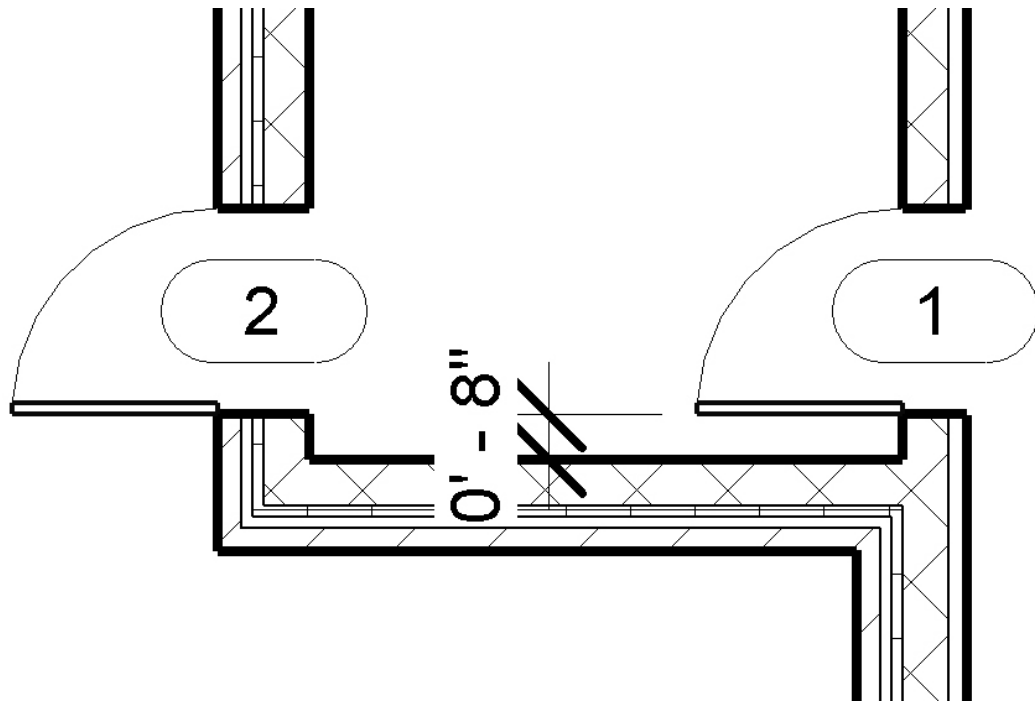

FIGURE 3-5.4 Doors in West stair shaft
8. Insert two doors in the West stair shaft as shown in Figure 3-5.4. Remember you are inserting a door into a masonry wall so your door position and size need to work with coursing. Thus the 8" dimension (however, you would also need to include the door frame into the equation).